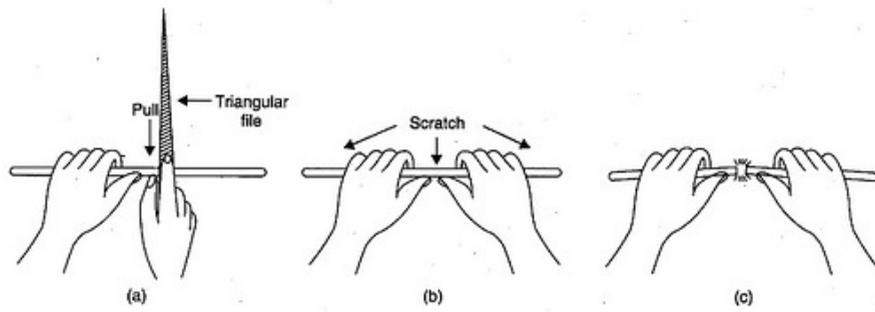
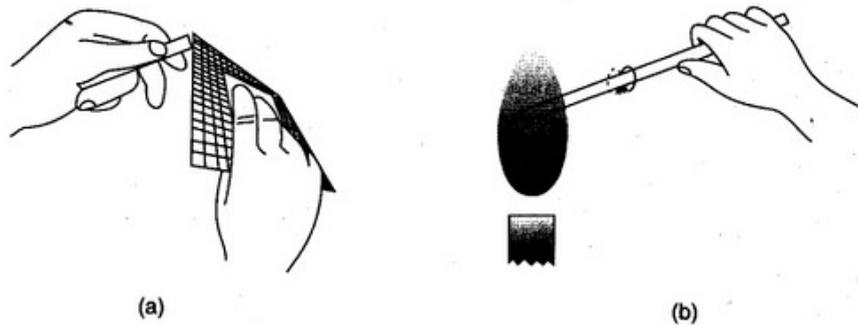

Fig. 2.2. (a) Making a scratch on a glass tube
Fig. 2.3. (a) Trimming the jagged edges
3. Place the thumbs on each side of the scratch at equal distances from it. Apply gentle pressure and give a quick bending motion towards you until it breaks smoothly (Fig. 2.2).
4. Sometimes, the ends of the tube are not smooth and might bruise your fingers (Figs. 2.2 and 2.3). These can be further smoothed by rotating the ends in a flame for 2-3 minutes. The edges will be smoothed (Fig. 2.3). Allow it to cool while holding in your hand.